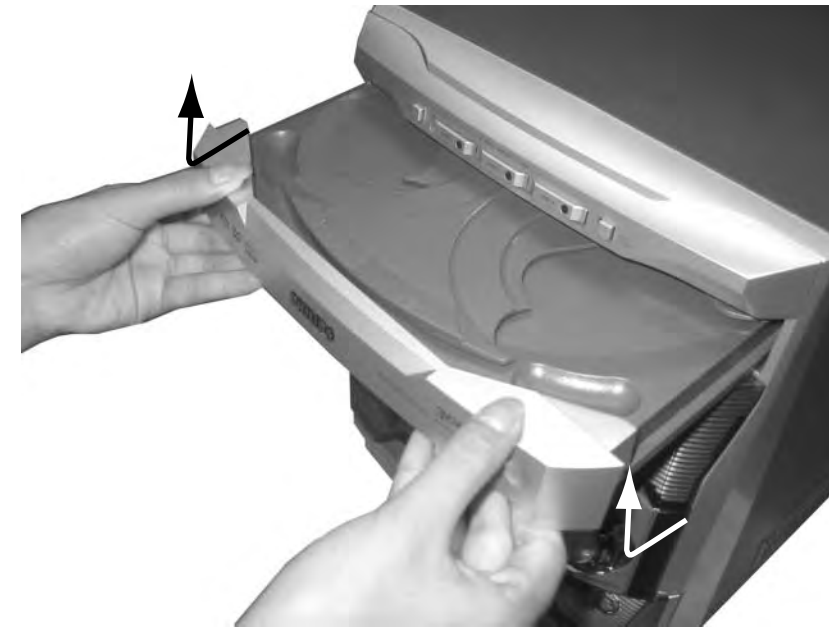

Figure 4
- 3) Remove the Cover Tray as shown in figure 4.
- 4) Remove the Cover Tray as shown in figure 4.